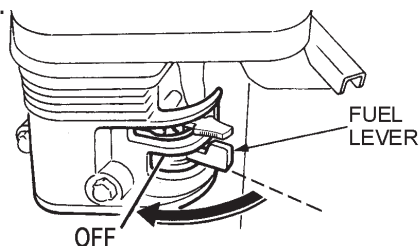

Figure 17. Fuel Valve Lever (OFF Position)
3. Place the **fuel valve lever** (Figure 17) in the **OFF** position.